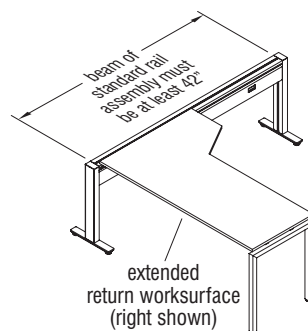

Figure 6
- Extended Return Worksurface (Figures 6 & 7).
- Left- and right-hand versions are available. Handing is determined by the orientation of the deeper end of the worksurface, as it attaches to the rail assembly (Figures 6 & 7).
- The standard rail assembly which the return worksurface will attach to must be at least 42" in length (Figures 6 & 7).